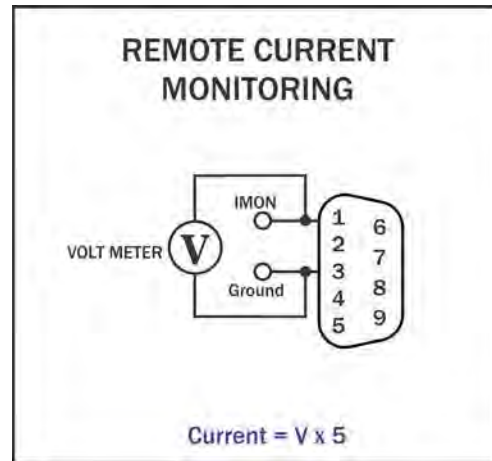

Figure A.4 – Remote Current Monitor
**Method:** Connect a voltage meter to monitor the output current being produced by the amplifier. Connect across I MON (PIN 1) and Ground (PIN 3). See **Figure A.4**.